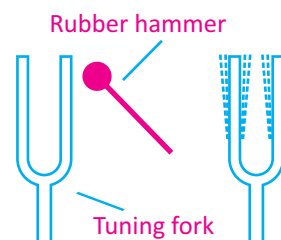
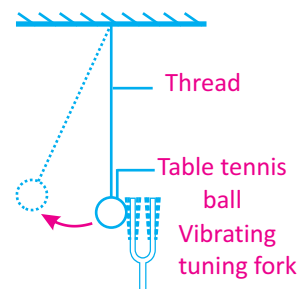

Fig. 11.2: Strike a rubber hammer on a tuning fork
Fig. 11.3: The production of sound waves from a vibrating tuning fork
**Activity 11.1:** In school laboratories, we use a device called tuning fork to produce a particular sound. If we strike the tuning fork against rubber hammer, the tuning fork will begin to vibrate (Fig. 11.2). We can hear the sound produced by tuning fork by bringing it near our ear. We can also feel the vibrations by slightly touching one of the prongs of the vibrating tuning fork with a plastic ball suspended from a thread (Fig. 11.3). Touch